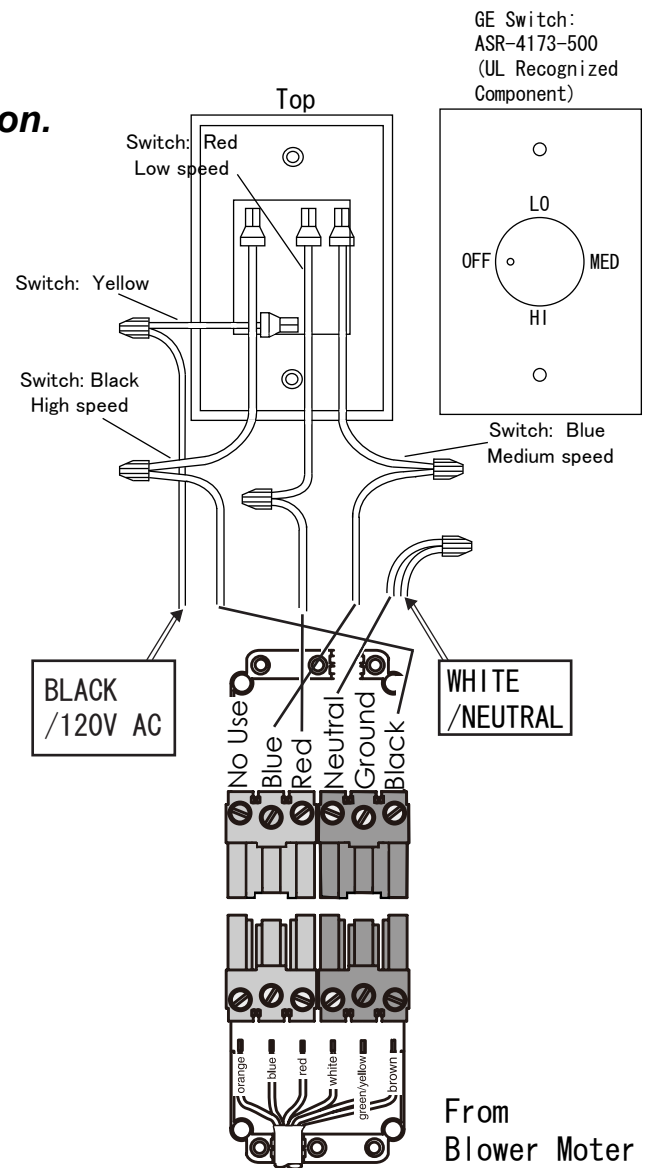

FIG 1 < Connection Diagram >
2. Connect the electrical wires in accordance with wiring diagram (figure 1). Connect wires tightly and securely using wire connectors (not supplied).